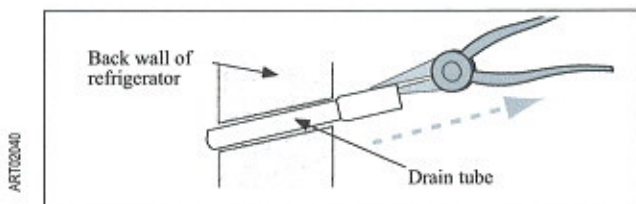

Figure 3. Remove Drain Tube
3. Use needle-nose pliers to grab the wall of the drain tube and pull with a quick, smooth action. Refer to Figure 3. Continue to withdraw the whole tube.